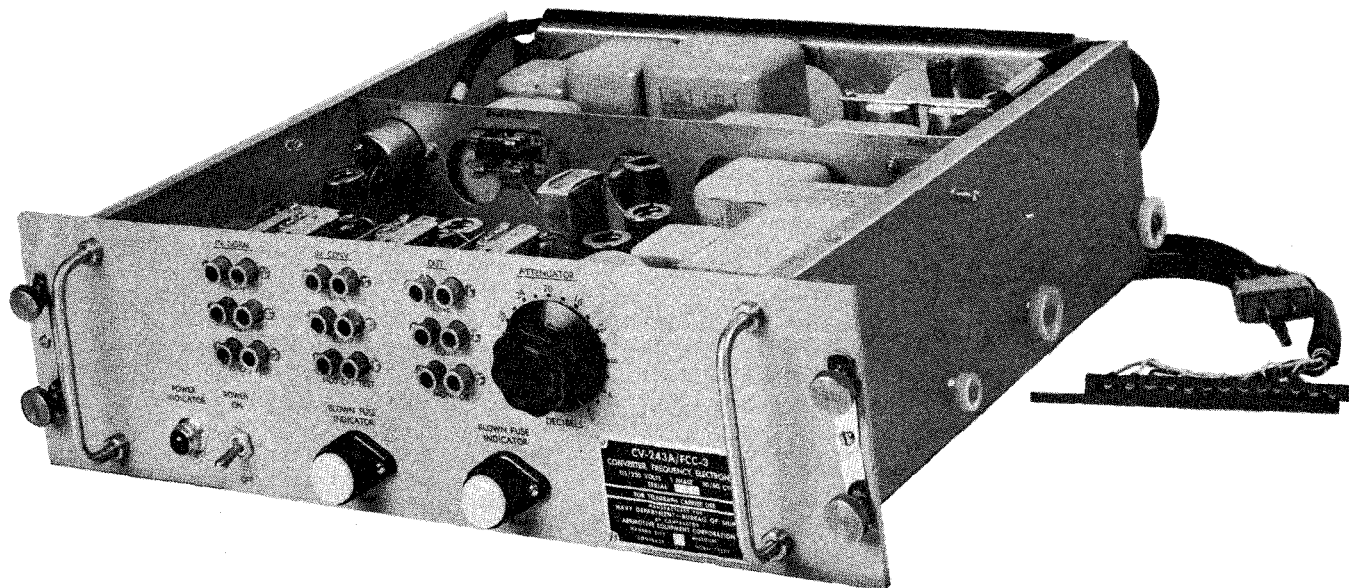

Figure 1-4. Electronic Frequency Converter CV-243A/FCC-3, Identification of
d. ELECTRONIC FREQUENCY CONVERTER CV-243A/FCC-3. (See figure 1-4.) - This unit provides the necessary facilities for accepting the output signals from eight narrow-band transmitters within a frequency spectrum of 382.5 cycles to 1675.5 cycles and translating these signals to a frequency spectrum of 1742.5 cycles to 3017.5 cycles. The frequency translation is accomplished by mixing the transmitted signals with a 3400 cps voltage and then selecting the lower of the two generated side bands. Mixing occurs in a balanced modulator circuit employing crystal diodes. The selection of the lower side band is obtained by a filter having a pass band of 1742.5 cycles to 3017.5 cycles.